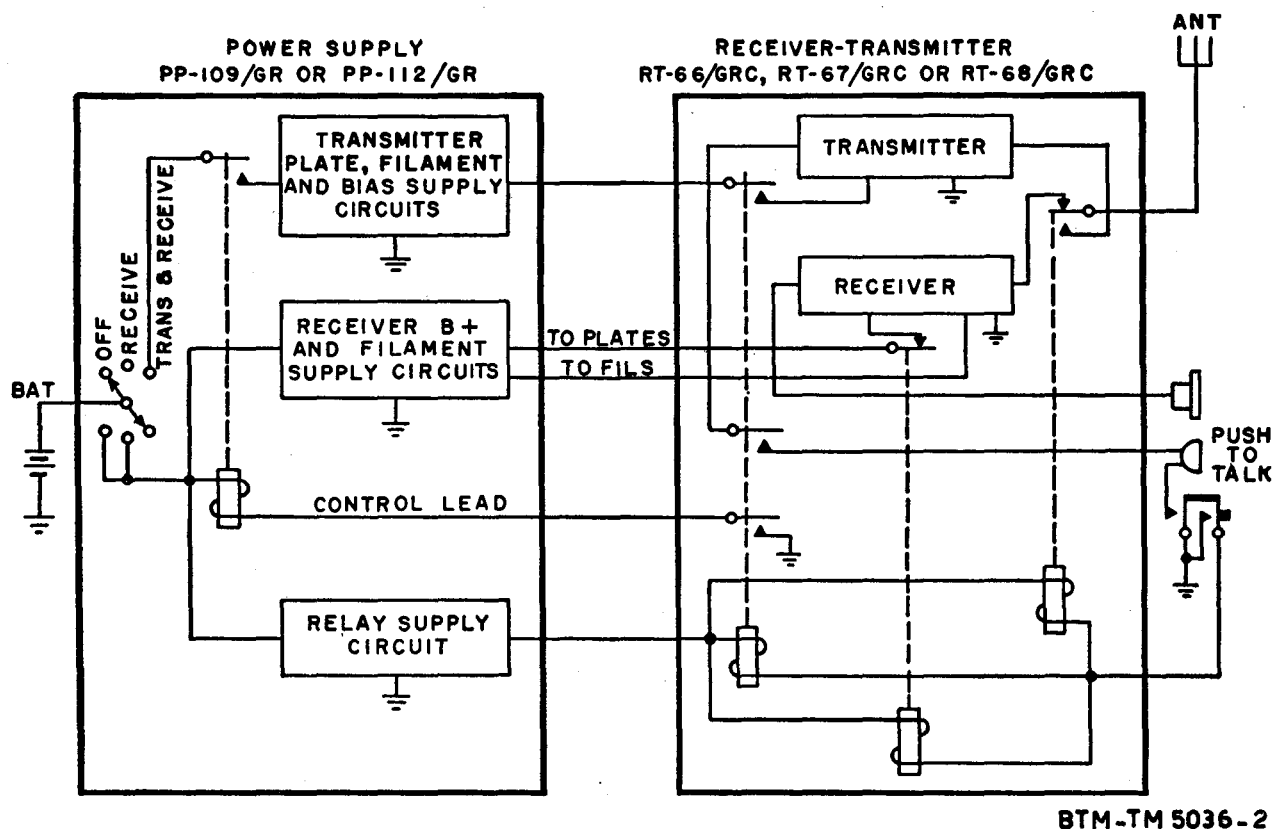

Figure 3. Application of Receiver-Transmitters RT-66/GRC, RT-67/GRC, and RT-68/GRC to Radio Sets AN/VRC-8, AN/VRC-9, and AN/VRC-10, simplified block diagram.
c. Basically, the communication circuit provided by the receiver-transmitters is of the single-frequency, push-to-talk type (fig. 3). The term single-frequency means that the receiver and transmitter circuits are gang-tuned to the same frequency. The term push-to-talk means that normally the equipment is in the stand-by or receiving condition and that operation of the push-to-talk button on an associated carbon microphone (or of a switch on an associated control box) disables the receiver and turns on the transmitter. Thus, conversation can proceed in only one direction at a time.
b. **Basic Arrangement.** Figure 3 shows the manner in which the receiver-transmitter may be associated with a minimum of components to provide a workable system. The antenna, handset, and power supply are connected by suitable cables to the panel connectors of the receiver-transmitter.